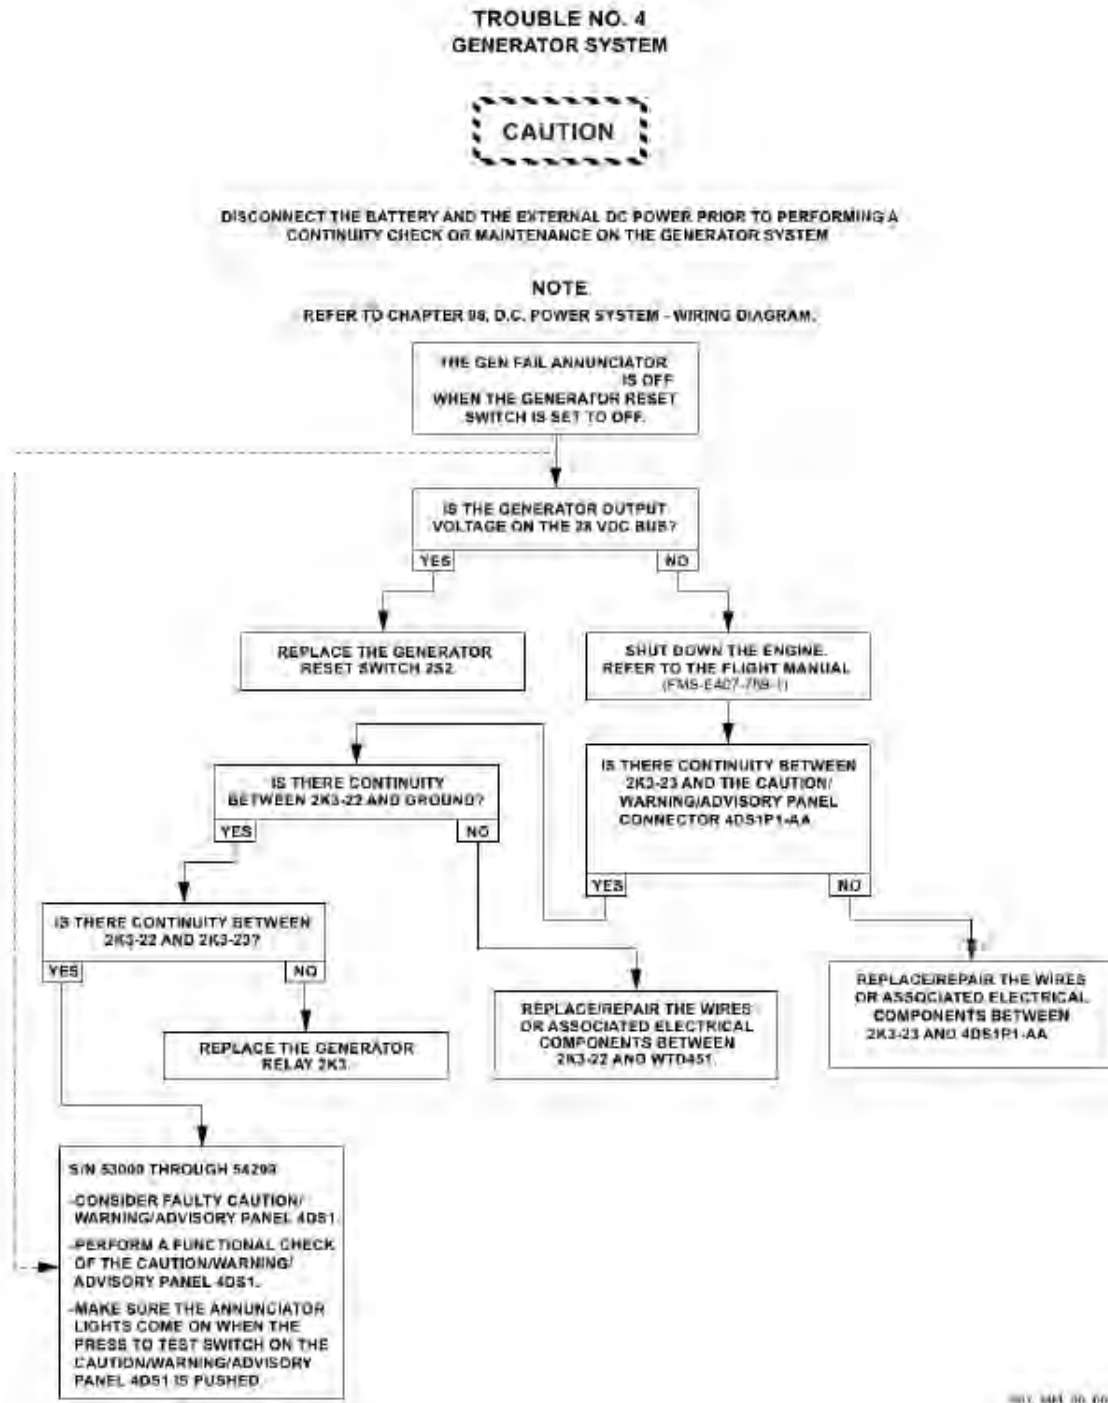

Figure 96-38: Generator System - Trouble No. 4
- If the GEN FAIL caution annunciator does not come on, refer to Trouble No. 4 (Figure 96-38).